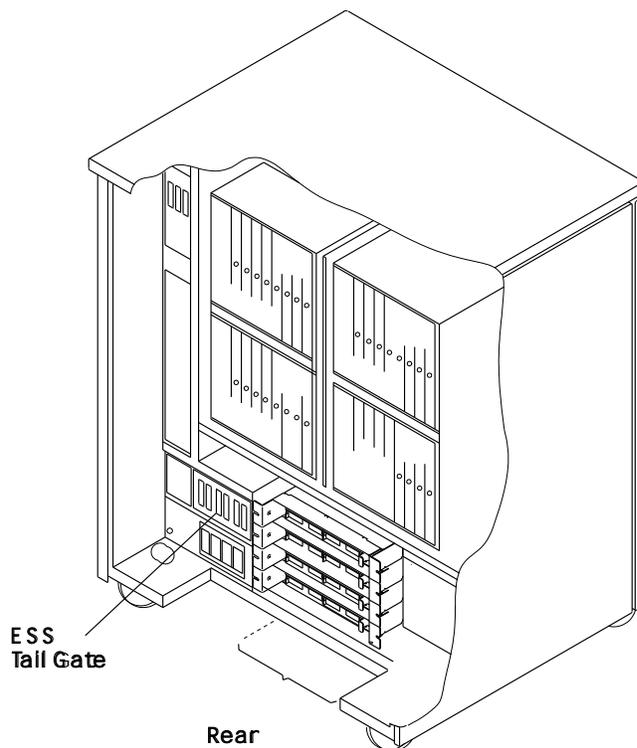
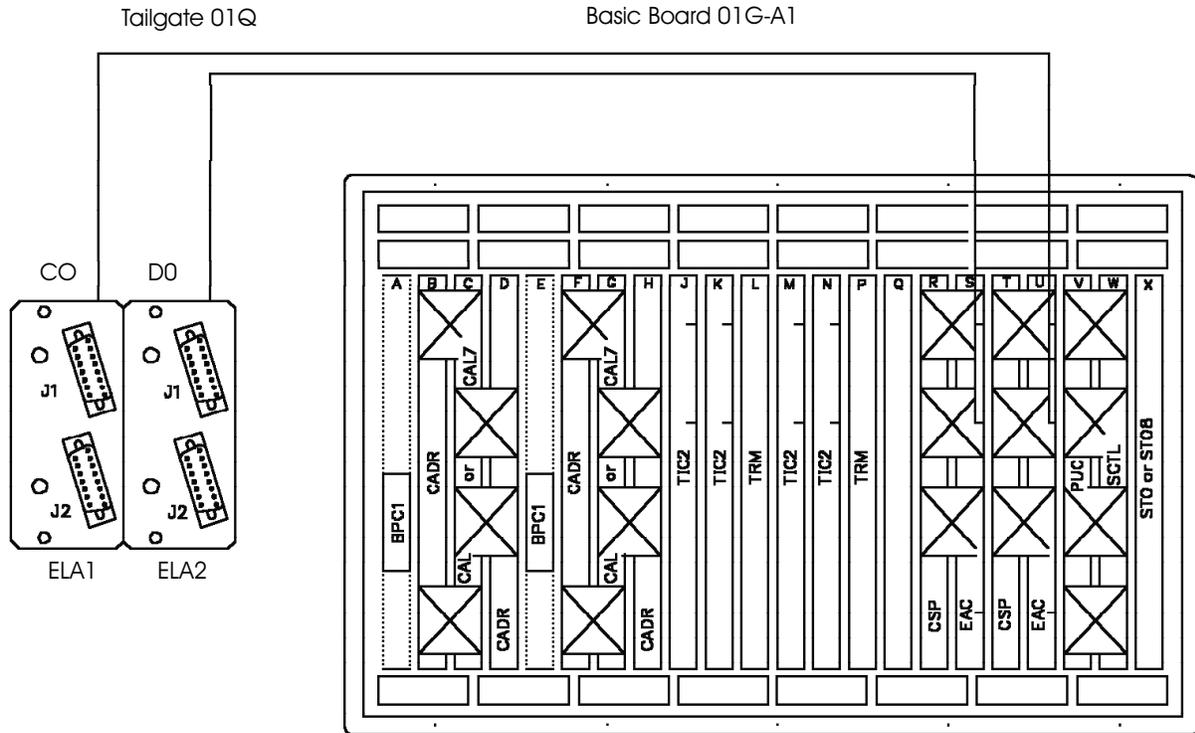

Figure 4-86. ESS Tailgate Location
Figure 4-87. ESS Tailgate and Basic board
5. For physical locations, refer to Figure 4-86 and to Figure 4-87 on page 4-65.
- c. Locate the related EAC card. Refer to Figure 4-87 on page 4-65.